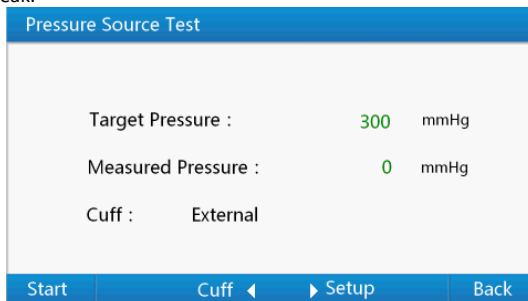

Figure 14 Pressure source test interface
- 1) Use up or down key in "Pressure Test Menu" to select "Pressure Source", then press "Enter Key "to "Pressure Source Test" interface shown as Figure 14. Pressing "Return Key "in this interface can get back to "Pressure Test Menu".As a shortcut, you can use the number key "3" to "Pressure Gauge Test" interface firstly, then press "Enter Key "to the "Pressure Source Test" interface.